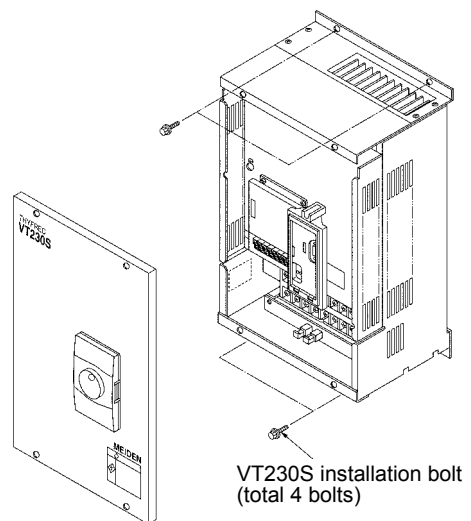

Fig. 2-3
#### (2) 018L, 022H and larger (Fig. 2-3)